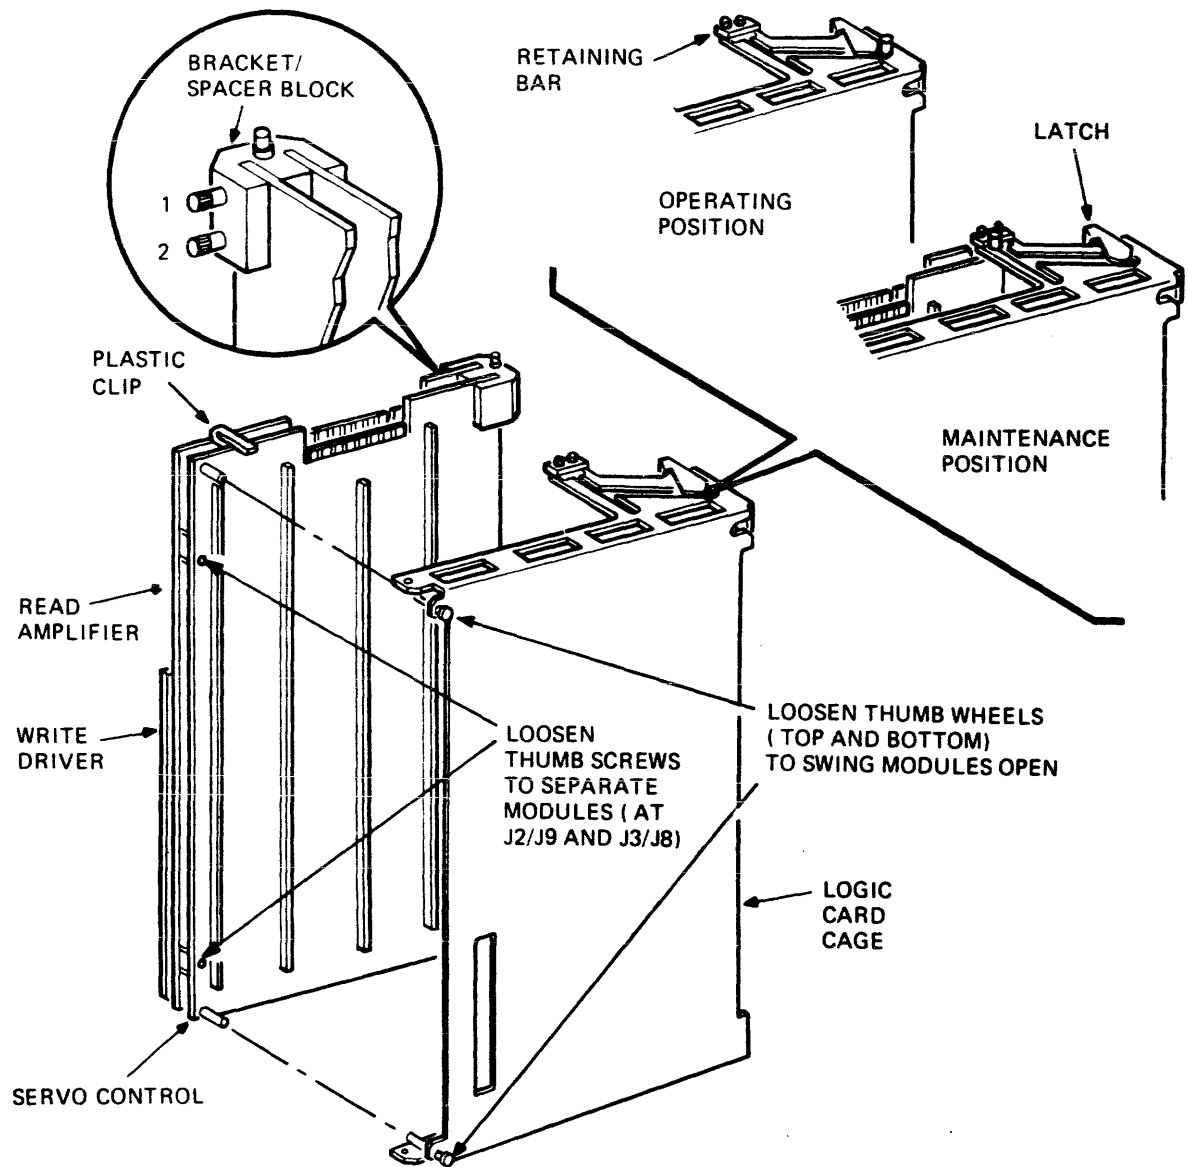
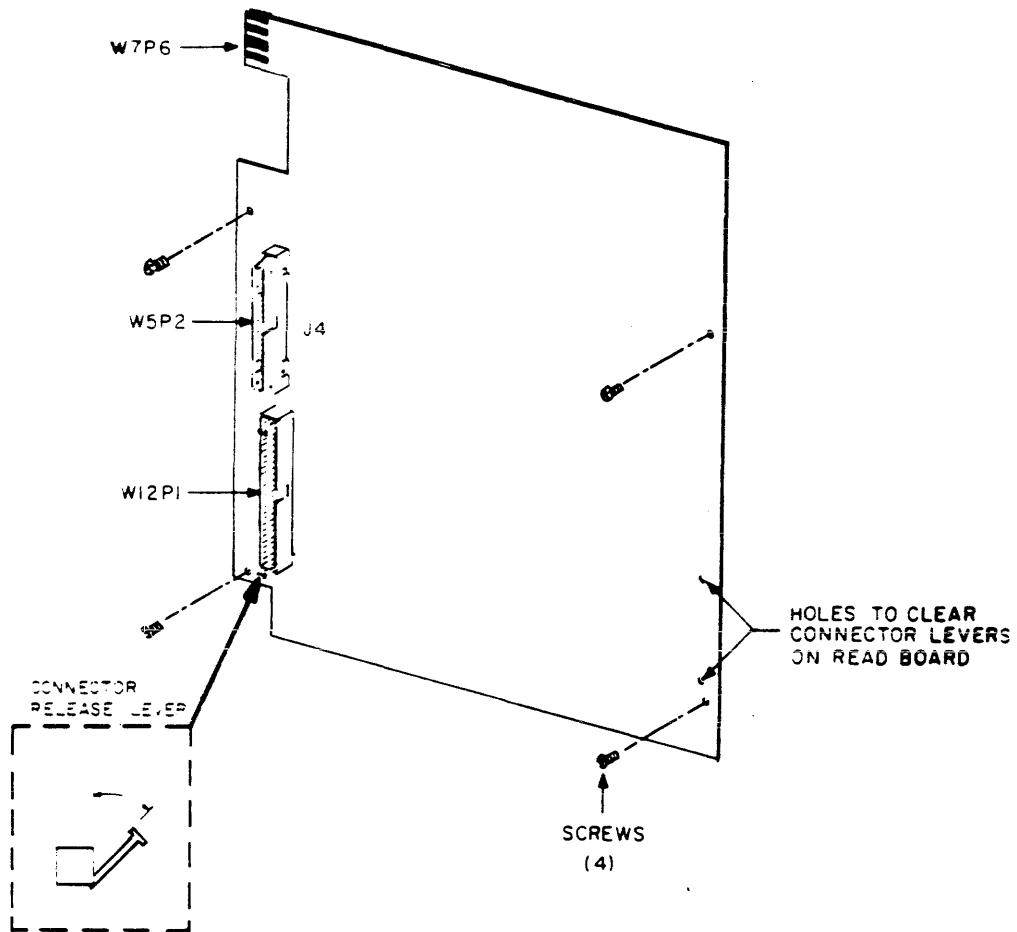

Figure 5-26. REMOVING WRITE DRIVER/READ AMP/
Figure 5-27. WRITE DRIVER MODULE CONNECTORS
2. Completely loosen both thumbwheels (top and bottom) to partially release the modules from the logic cage (Figure 5-26). Remove connectors W5P2 (to read/write head), W7P6, and W12P1 from the Write Driver Module (Figure 5-27).
6. Ensure that all connectors have been removed. Remove one of the two Phillips screws from the bracket stop on the underside of the logic cage (Figure 5-26) and carefully remove the three-module assembly from the transport.
7. Remove the retaining bar from the logic cage (Figure 5-26).
10. Loosen the upper thumbscrews 6 to 8 times at the top and bottom space brackets/blocks (Figure 5-26).
11. If you need to replace the Read Amplifier or Write Driver module, separate them by removing four standoff screws (Figures 5-27 and 5-28).
2. Install an upper and lower spacer block assembly to both modules and secure by tightening each (4) thumbscrew (Figure 5-26). Replace the plastic clips.
3. Secure the Write Driver Module to the read amplifier using four screws (Figures 5-27 and 5-28).
7. Replace and secure the retaining bar (Figure 5-26).
9. Tighten the upper and lower thumbwheels on the logic cage to completely secure the modules (Figure 5-26).